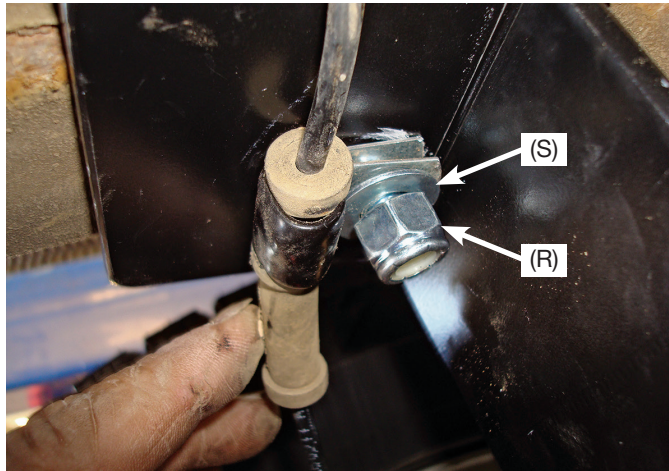

fig. 18
4. While raising the assembly, line up the bolt previously installed with the back hole on the bracket. Set the new ABS line holder over the bolt once the upper bracket is in place and cap with a flat washer (S) and nylon lock nut (R) (fig. 18). Leave loose at this time.